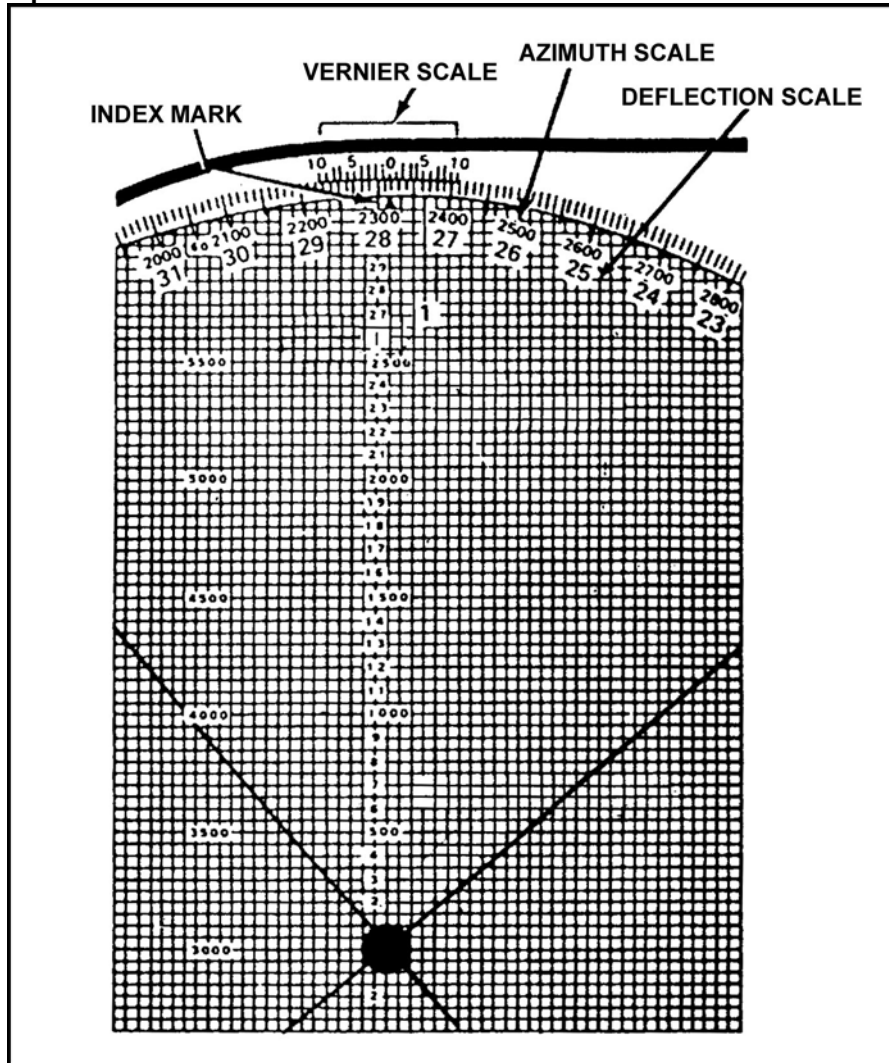
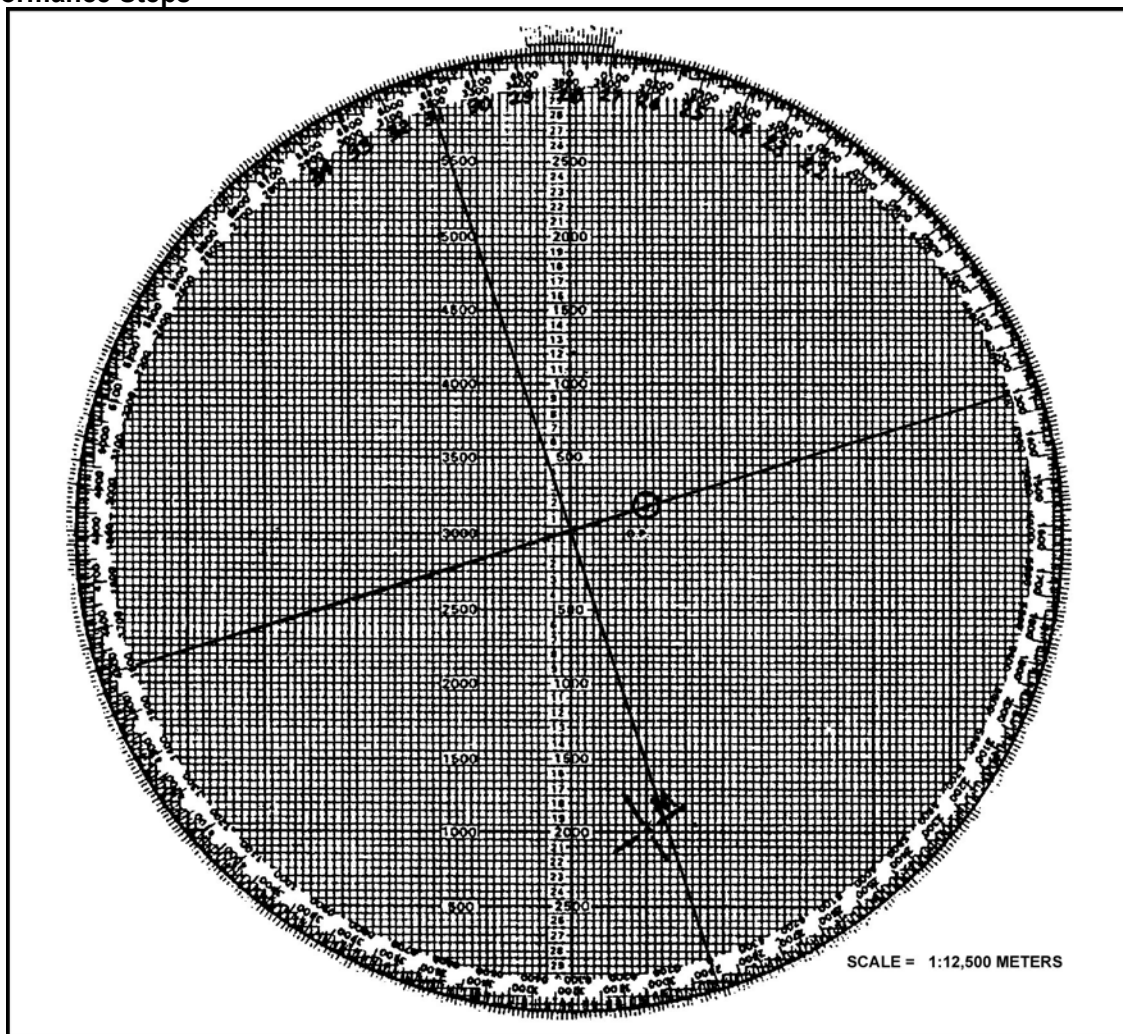

Figure 1. Placement of deflection scale on disk.
Figure 3. Mortar and target aligned.
- (4) Record the mounting azimuth in the top margin of the computer's record.
- (5) To set up the deflection scale on the plotting board, rotate the disk until the mounting azimuth is at the index mark. Directly below the mounting azimuth, write in the referred deflection (normally 2800) using the first two digits (28). Continue right or left of 28, using the LARS (left add, right subtract) rule, 400 to 500 mils (Figure 1).
- (1) The first two digits are read from the deflection scale that the computer placed on the plotting board. Since deflections increase to the left, look for the first number to the right of the index mark. In this example, it is 27.
- (2) The third digit is read from the 10-mil mark between deflection numbers 27 and 28. The index mark is between the eighth and ninth 10-mil mark, which makes the third digit "8."
- (3) The fourth digit is read at the Vernier scale. For deflections, use the left half of the scale. Count the 1-mil marks, starting at the 0, to the left until one of the 1-mil marks of the Vernier scale and one of the 10-mil marks on the azimuth disk are aligned. In this case, the fourth 1-mil mark is aligned, making the fourth digit 4.
- c. Determine range. The next step is to determine the range from the mortar position to the RP. Using the edge of the computer's record, place it along the line from the mortar to the reference point on the map. Then place a tick mark at the mortar and one at the reference point. Using the range scale of the map, determine the range in meters. Record this in the CHART DATA/CHG (RG) block of the computer's record.
- d. Plot the mortar and target. To complete setting up the plotting board, plot the mortar and reference point. Keeping the chart deflection indexed, move 500 meters to the right or left of the pivot point and down 2,000 meters (Figure 1). Make a small plot and enclose it with the mortar symbol (Figure 3). To plot the RP (range 2,150 meters), count the large and small squares, go straight up the board to the range, make a small plot, circle it, and number it (Figure 3).
2. The computer plots FO's correction. Receive and record the FO's correction (OBSERVER CORR) (Figure 1). Compute new data for the FO's correction as follows:
- (1) Rotate the disk until the No. 2 plot is aligned with the mortar plot. (The mortar and No. 2 plot must be an equal distance from the same vertical line and on the same side of the same vertical line.)
- (2) Keeping the plots aligned, read the deflection for plot No. 2 (Figure 1) and record on the computer's record.
- (3) Using the tick marks on the edge of the computer's record, determine the range for the mortar and No. 2 plot using the alternate range scale. Using the firing table, select and record elevation (Figure 1).
- (4) Place a "2" in the RDS EXP column.